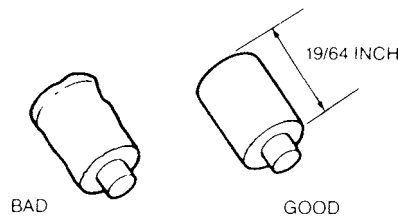

Figure 8.12
1. Visually inspect for cracks or other physical damage. Replace assembly (31) as necessary.
8.12 INSPECT CARBON BRUSH (34)
- A. Visually inspect the carbon brush (34). Overall length of the carbon brush must be greater than $\frac{19}{64}$ inch and the OD of the brush diameter must be uniform. (See Figure 8.12). Carbon brushes that do not meet these limits must be replaced.